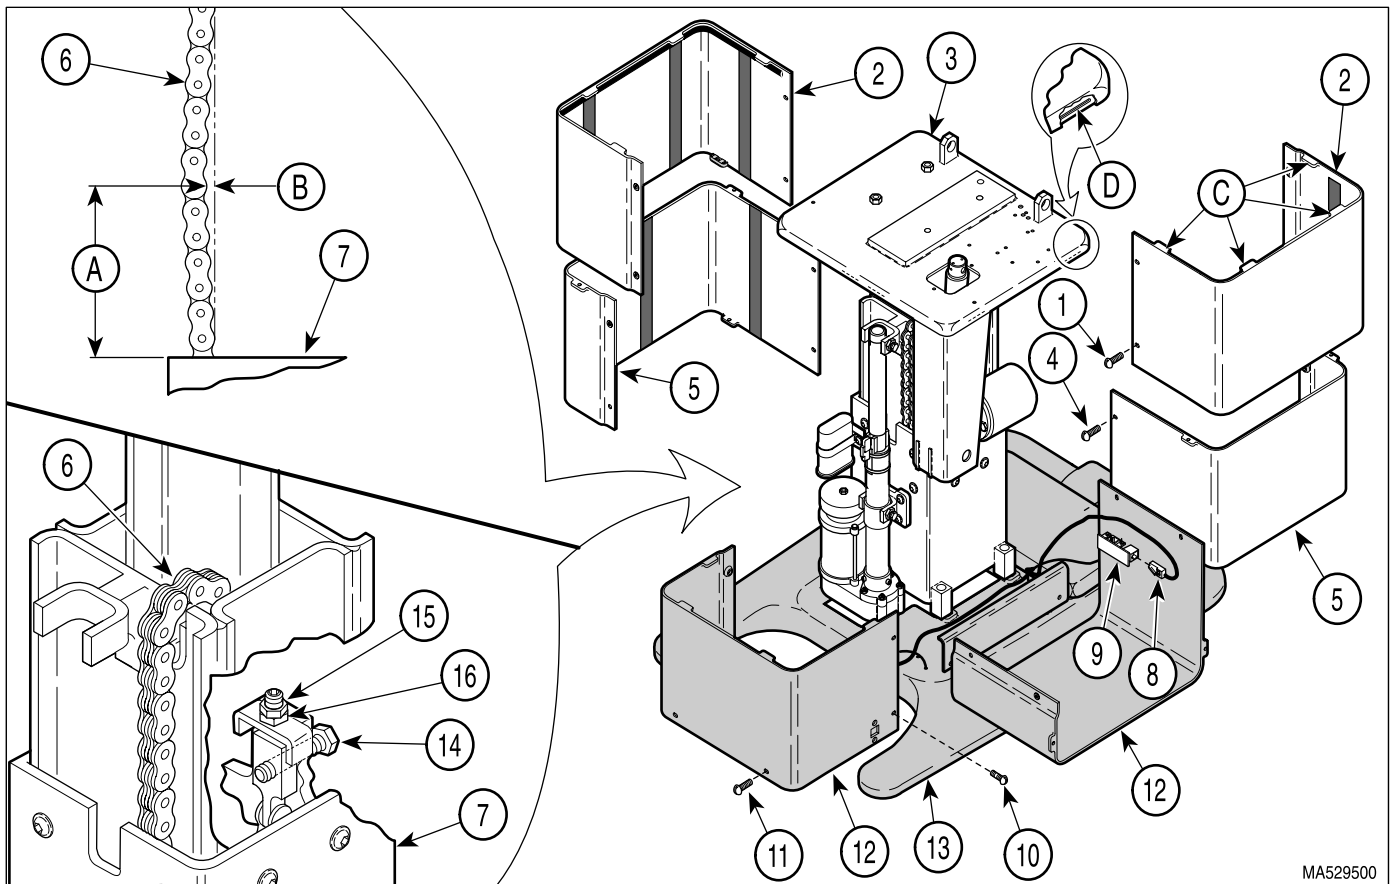

Figure 4-27. Chain Tension Check / Adjustment
- (5) Remove four screws (1, Figure 4-27) and R.H. and L.H. outer shrouds (2) from column adapter weldment (3).
- (6) Remove four screws (4) and R.H. and L.H. middle shrouds (5).
- (7) Measure slack (measurement B) in chain (6) at a point 1 3/4 to 2 1/4 in. (4.4 to 5.7 cm) above top of outer slide weldment (7) (measurement A).
- (8) If slack in chain (6) is between 1/16 to 3/16 in. (1.6 to 4.8 mm), go to step 18. See measurement B.